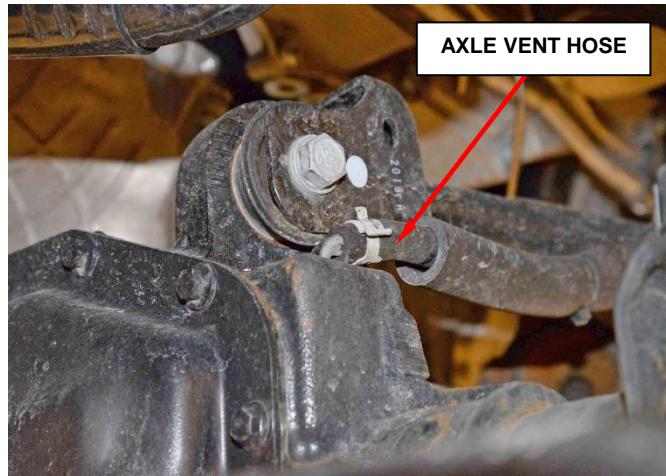

Figure 5 – Axle Vent Hose
8. Disconnect the axle vent hose (Figure 5).